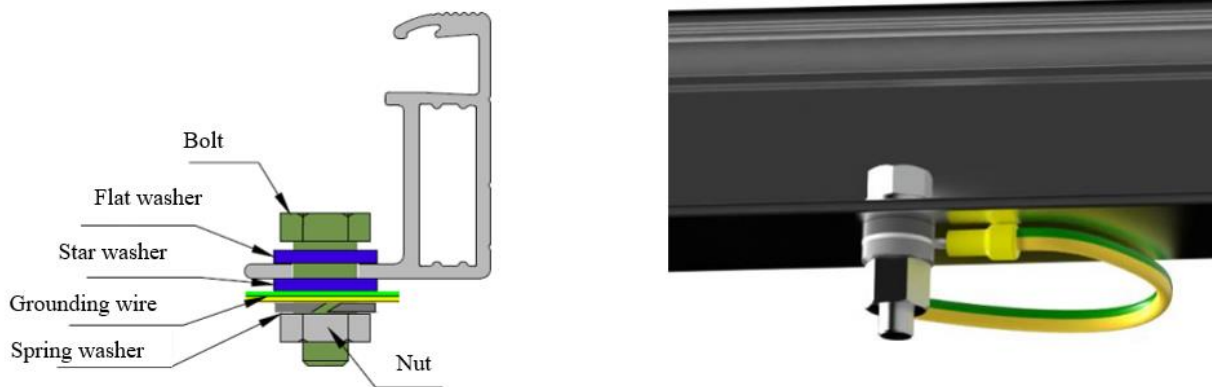

Fig. 20 Grounding with bolts
8.5.5 There is a 4mm diameter grounding hole on the long frame near the edge on the back of the Module, which is marked with the typical grounding symbol () according to IEC 61730-1:2023. This hole is only used for grounding, not for installation. Bolts, flat washers, star washers, spring washers and nuts will be used for grounding, see Fig. 20. Please fasten the bolts for grounding, and do not drill holes in the frame, otherwise the warranty will be voided. Unused mounting holes in the frame may also be used for grounding.